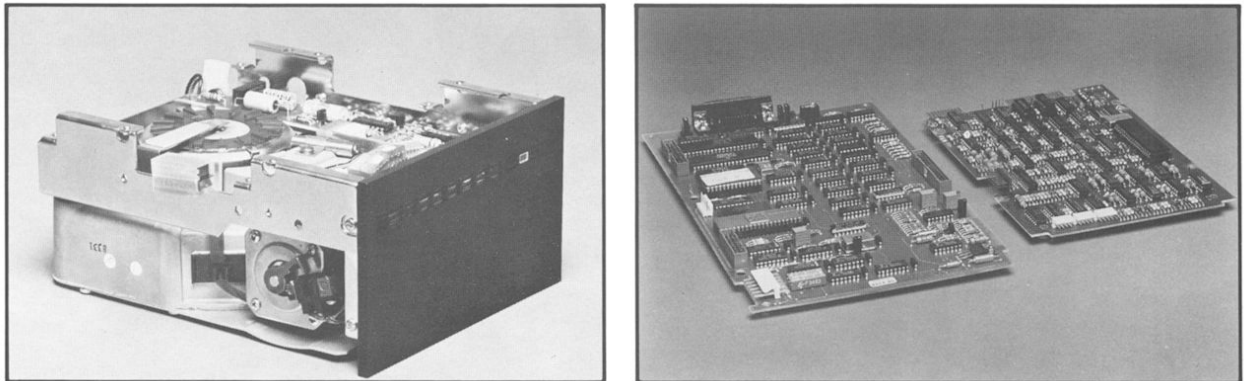

**Figure 2-7. Drive Electronics PCA Removal**
3. Remove four screws labelled "F" in Figure 2-1. Carefully slide the board to the rear of the box frame and clear of the Drive Assembly. See Figure 2-7.